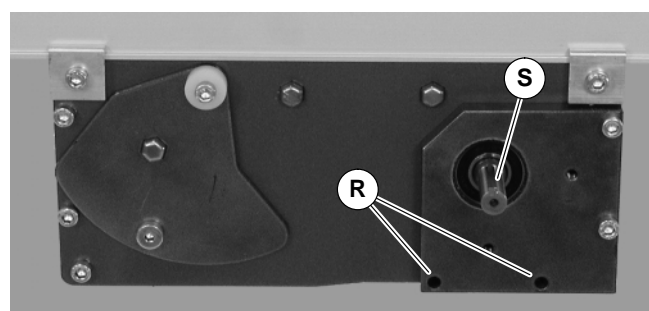

Figure 6
3. Locate drive output shaft (S of Figure 6) and remove two (2) screws (R).